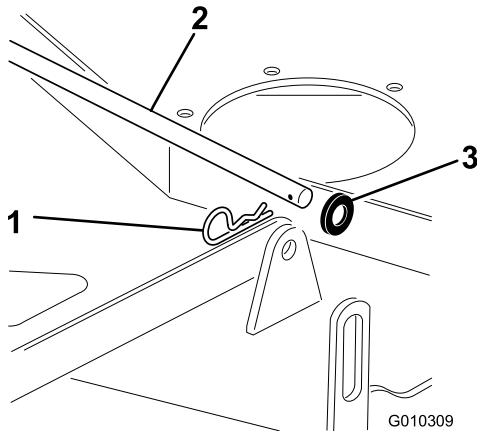

Figure 72
1. Remove the hair pin cotter and washer securing the long, link bar to the frame and deck; remove the link bar (Figure 72).
7. Install the long, link bar through the frame hanger and deck. Secure the link bar with the hair pin cottes and washers removed previously (Figure 72).